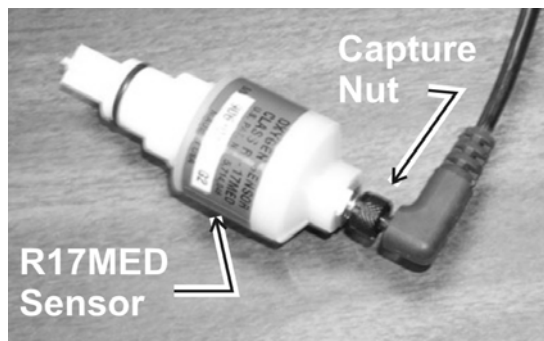

Figure 2-1: Installing the R17MED Sensor
| Figure 2-1: Installing the R17MED Sensor | 15 |
2. Plug one end of the coiled cable into the jack receptacle on the back end of the R17MED sensor and secure in place with the capture nut located at the base of the connector. See Figure 2-1.